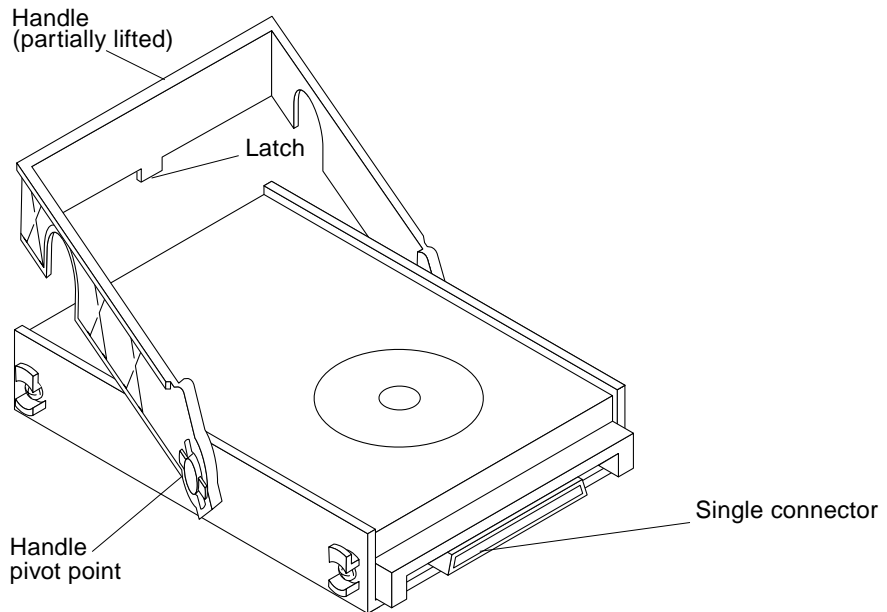

FIGURE 9-2 Single Connector Hard Disk Drive
4. **Press the plastic latch located beneath the handle at the rear of the drive to release the handle (FIGURE 9-2).**